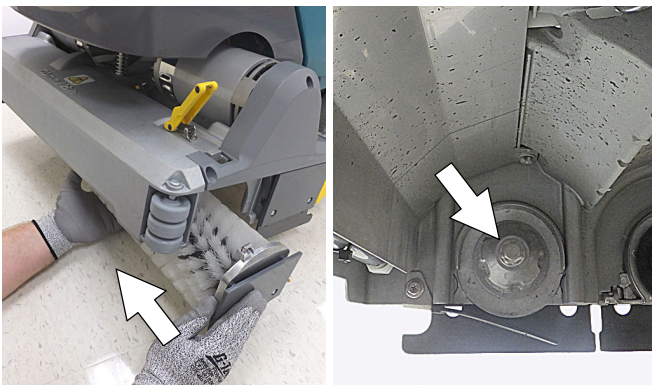

FIG. 20
4. Guide brush onto the drive hub and refasten latch (Figure 20).